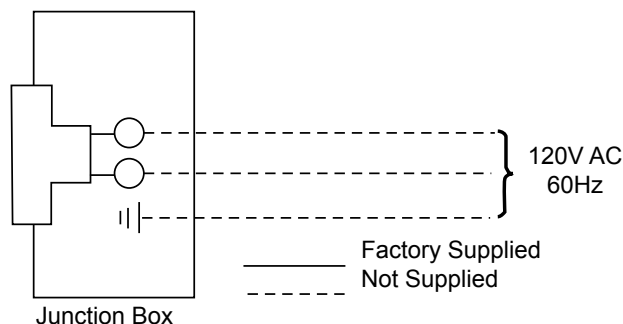

Figure 34 -
3. The junction box cover has a factory installed "romex" style strain relief connector. After connecting the wires, route the wire leads through this connector. Refer to the wiring diagram in Figure 34.